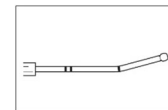

Figure 5: Sphenoid Bend
- Sphenoid Sinuses:** When accessing the sphenoid sinus ostia, a slight bend (Figure 5) is recommended.